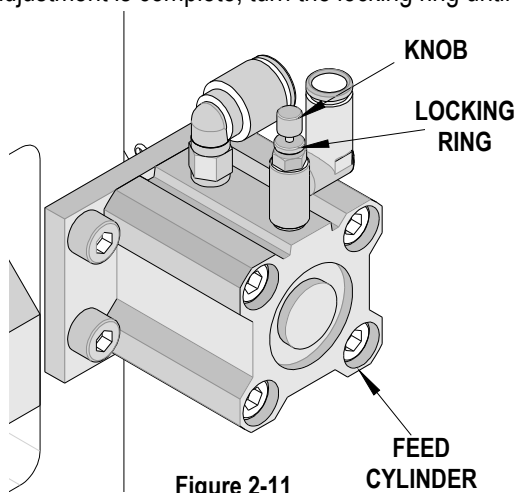

Figure 2-11
Terminal feed speed is controlled by the flow control valve on the feed cylinder. Loosen the locking ring, then turn the adjustment knob clockwise (CW) to reduce the feed speed or counterclockwise (CCW) to increase the feed speed. See Figure 2-11.
- To adjust the stripper up and down, use a 4mm hex wrench to loosen the M5 socket head screw on the front of the stripper. Move the stripper down until it is just above the taped terminal on the anvils. See Figure 2-11. Tighten the M5 socket head screw when adjustment is complete.